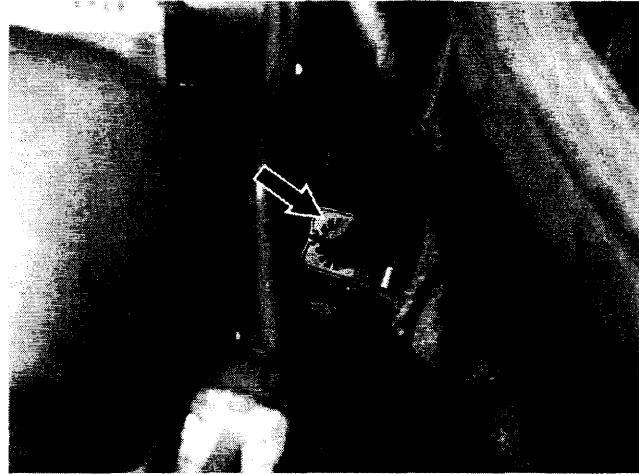

Figure 9
- Install the new SBC suction hose mounting clip (arrow, Figure 9) onto the mounting stud.